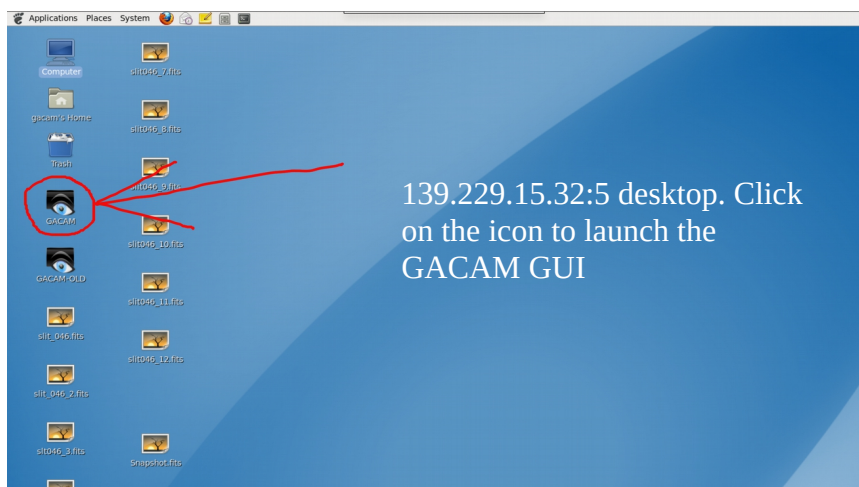

Figure 2: The GACAM computer desktop after launching the VNC connection. Click on the GACAM icon to start the camera software.
1. To access the GACAM GUI (Fig.2), vnc to: 139.229.15.32:5 and type the password provided by your Goodman Support Scientist or the Telescope Operator. Double-click on the icon on the left as shown in Figure 2. The white window will show the camera ID 02-2110A-07072 if GACAM is powered and the connection to the Prosilica camera is established (Fig. 3, left).